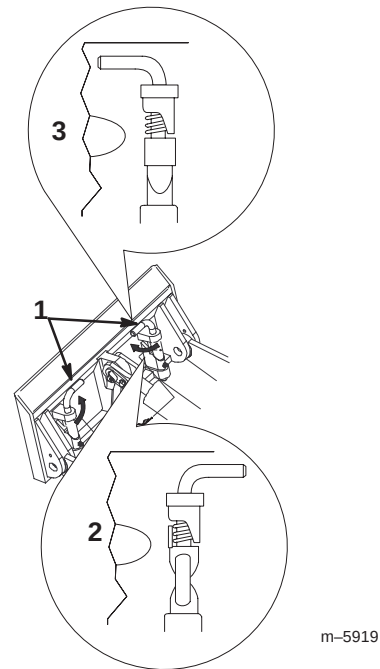

Figure 18
7. Engage the quick attach pins, ensuring that they are fully seated in the mount plate (Fig. 18).